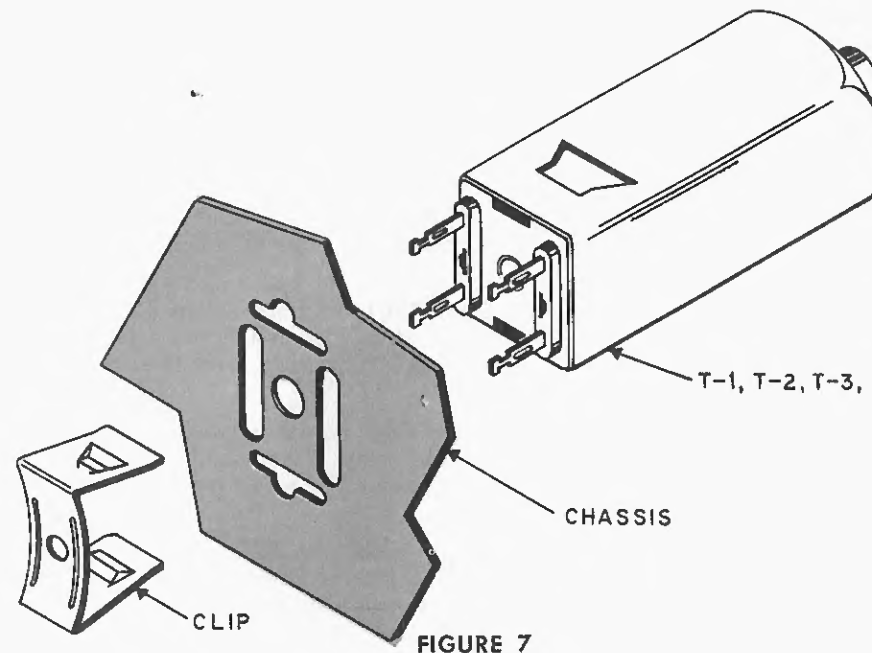

FIGURE 7
- ☒ T-1, IF transformer in metal can, (T-1 stamped on can). Mount the transformer to the **top** of the chassis with the **color dot** in the position shown. See Figure 7. Fasten with a U shaped metal clip. Insert the ends of the clip in the two slots from the bottom of the chassis. While holding the coil in position, push the clamp onto the can until both ends of the clamp snap into position on the sides of the can.